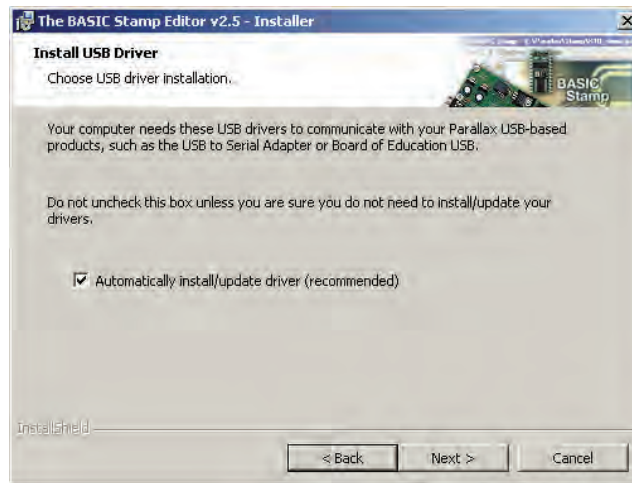

Figure 1-14
- ✓ **IMPORTANT:** When the “Install USB Driver” message appears (Figure 1-14), leave the checkmark in place for the Automatically install/update driver (recommended) box, and then click Next.